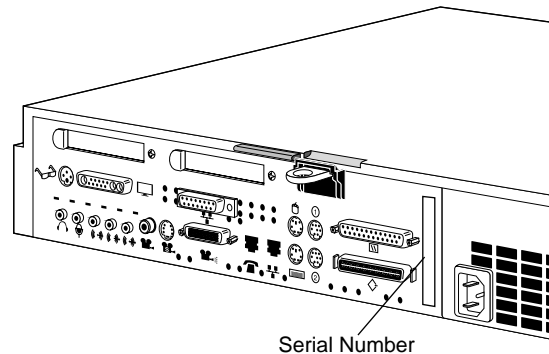

Figure 7-14 Finding Your Workstation's Serial Number
1. Look on the back panel of the Indy. Next to the power connector, you'll see a label with a bar code and the serial number. See Figure 7-14.